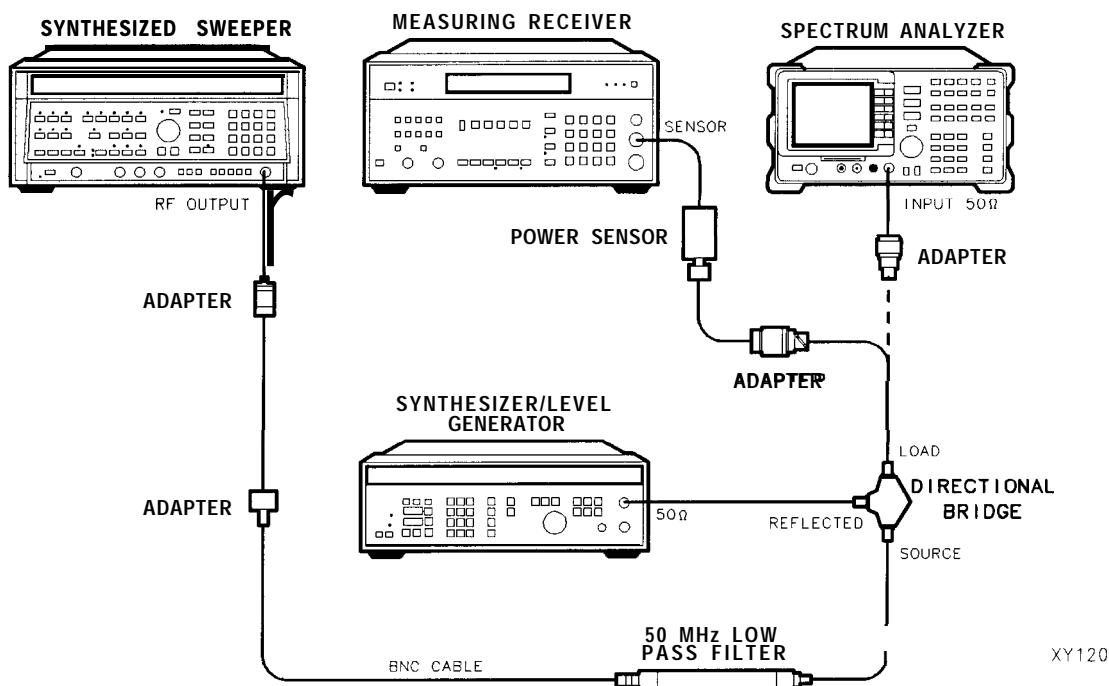

Figure 1-21. Third Order Intermodulation Distortion Test Setup
2. Connect the equipment as shown in Figure 1-21 with the output of the directional bridge connected to the power sensor.